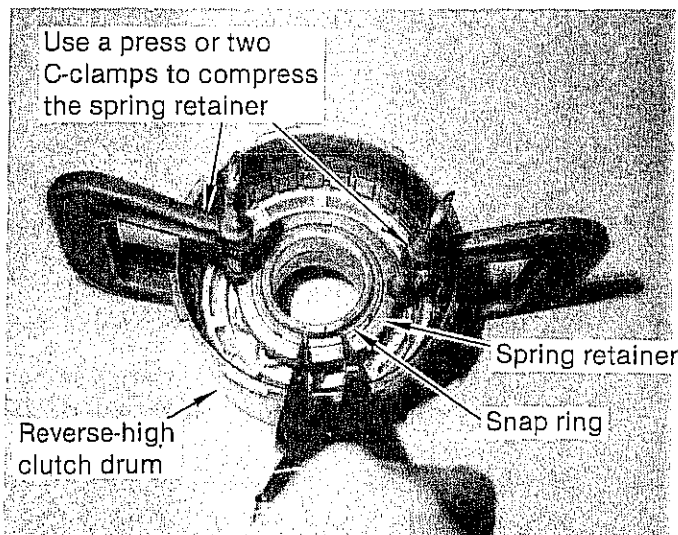

FIGURE 30
STEP 2. Use an arbor press or two C-clamps to compress the piston return spring retainer. (See Fig. 30) Be careful not to distort the retainer. Remove the snap ring and release the press carefully. Remove spring retainer and ten return springs. Remove the clutch piston from the drum. Remove and discard the outer rubber lip seal from the piston and the inner rubber lip seal from the clutch drum. Set the piston, springs, spring retainer and snap ring in the oil pan.